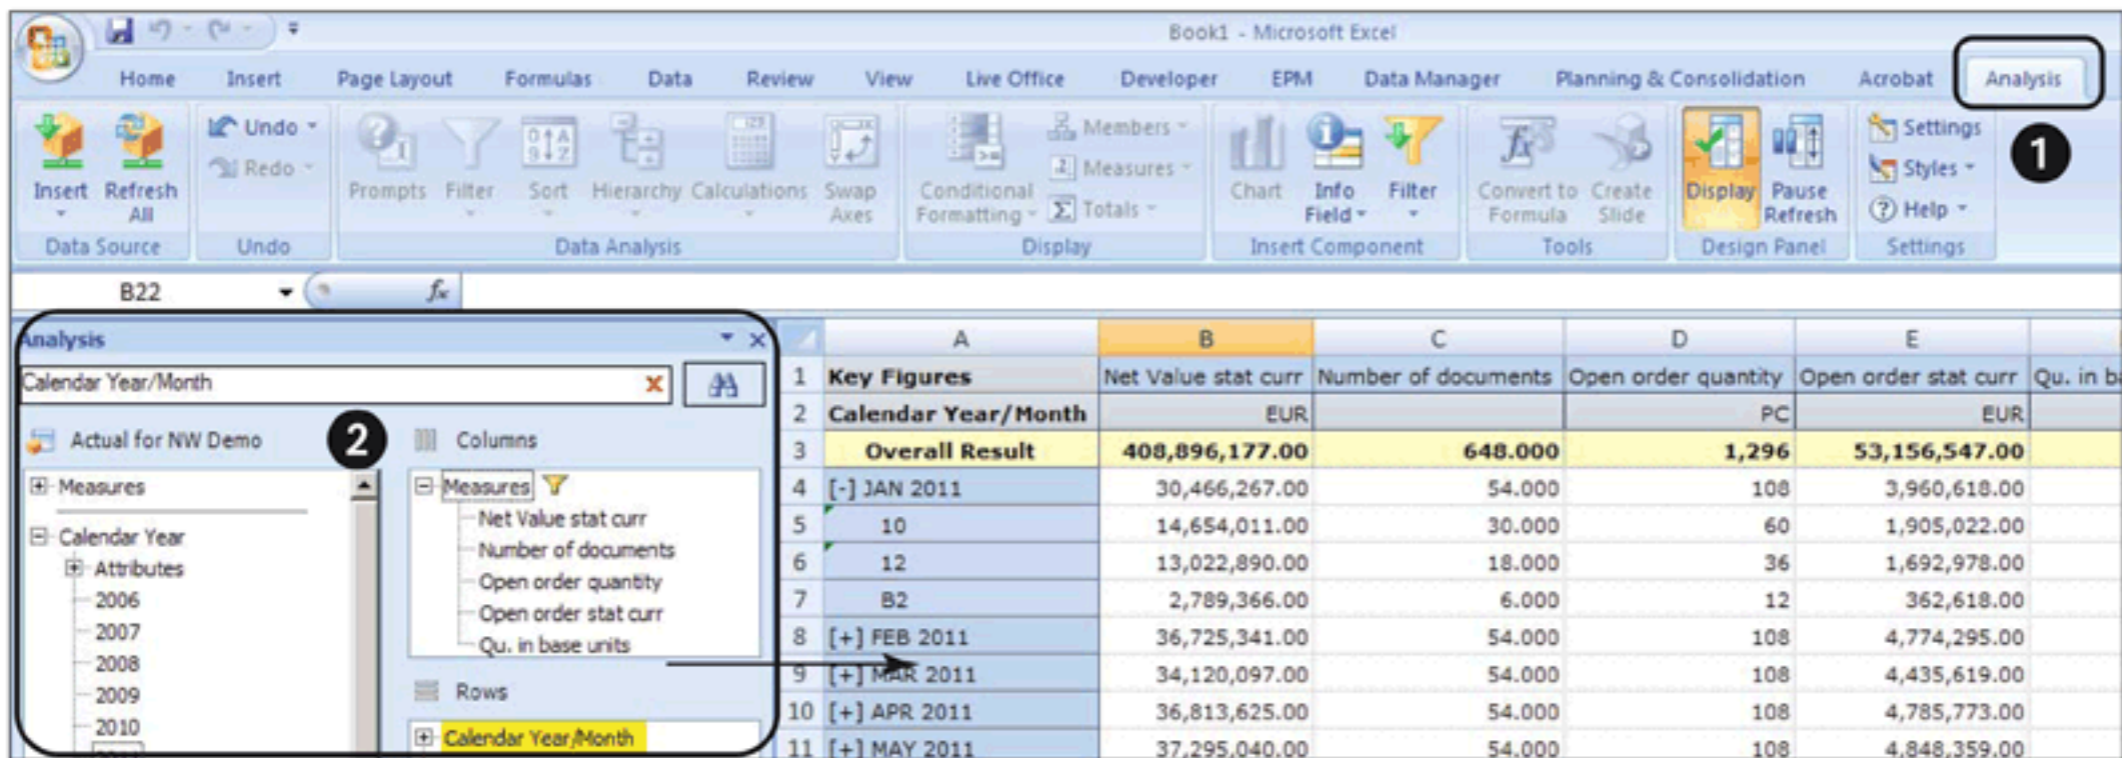

Figure 13.16 SAP BusinessObjects Analysis, Edition for Microsoft Office
This tool allows users to perform reporting and multi-dimensional analysis on one or more data providers in an Excel interface, allowing them to create Excel-based analytical and integrated planning applications. The client software has to be installed for each user to use this tool. A separate ANALYSIS toolbar is available in Excel as an add-in (❶ of Figure 13.16).
The Excel edition is particularly popular because it works within a format that is quite familiar to analysts. It can connect to one or more data sources from more than one source system. With fields from the data sources (❷ of Figure 13.16), users can build their own analysis application that can include multiple cross-tabs, fields, conditions, local calculations, and so on. This analysis workbook, similar to a BEx Analyzer workbook, can be saved, shared, and reused. You can also publish this analysis in Microsoft PowerPoint, meaning that presentations can have analysis embedded into them with a live connection to data sources.